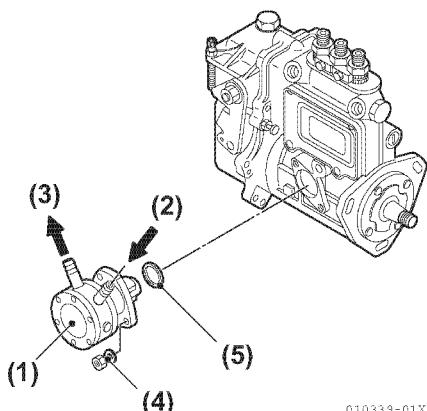
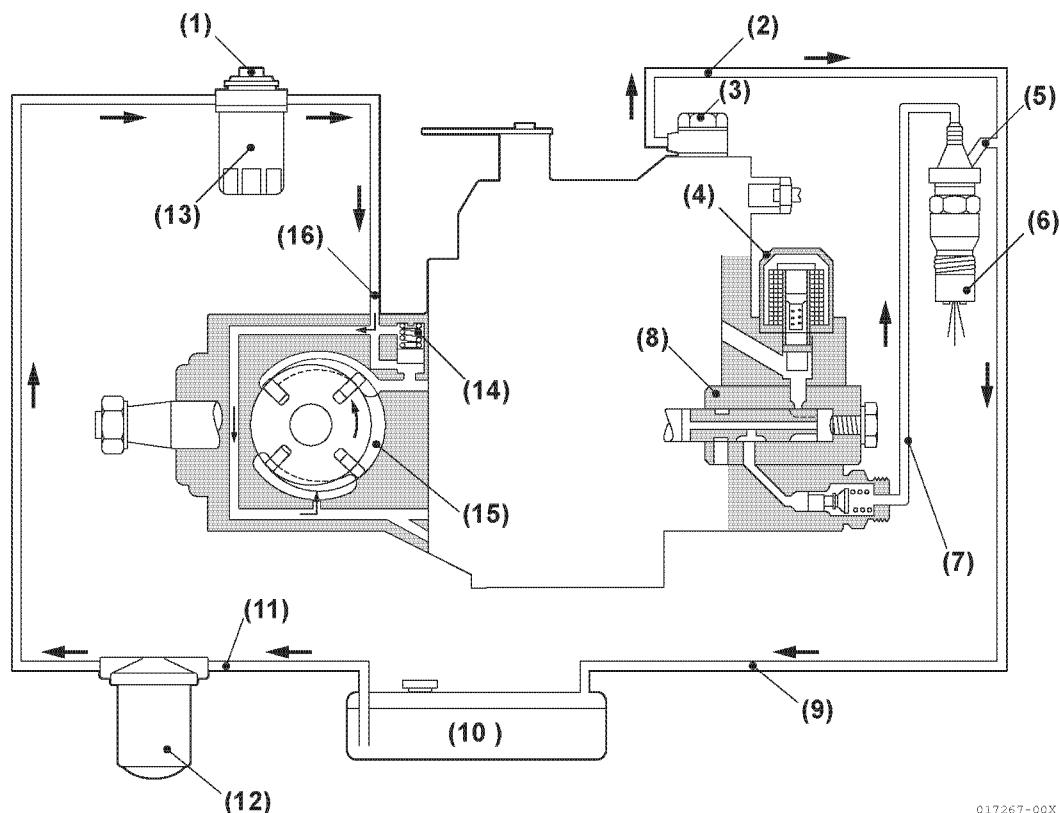

Figure 6-18
Figure 6-19
4. Remove supply line (**Figure 6-18, (2)**), (**Figure 6-19, (16)**) and pressure line (**Figure 6-19, (2)**), (**Figure 6-19, (7)**) from fuel feed pump. Install caps or plugs on all open fittings to prevent contamination of the fuel system.
5. Remove bolts (**Figure 6-18, (4)**) and packing (**Figure 6-18, (5)**).
Note: For 4JH4-TE and 4JH4-HTE, the fuel feed pump is built in the fuel injection pump / governor system (**Figure 6-19**). If fuel pump portion needs to be changed, contact an authorized Bosch service factory or dealer.